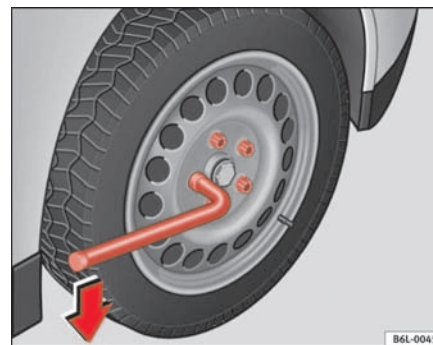

Fig. 141 Changing the wheel: Loosening the wheel bolts
- Grasp the box spanner by the end turn it about one full turn to the **left** ⇒ fig. 141.